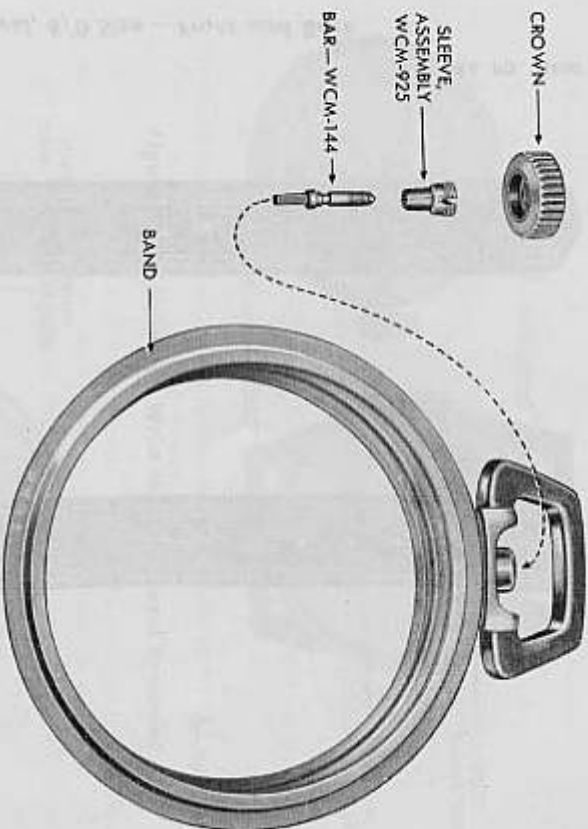

Figure 111 — Waltham Pocket Watch — Crown, Sleeve, and Bar Removed From Case Band Assembly
1. Remove Crown, Stem, and Sleeve (fig. 111). Grasp the square of the winding stem between smooth portion of flat-nosed pliers and
b. **Replace Winding Arbor** (fig. 111). Replace winding pinion and winding and setting clutch on the winding arbor. Insert setting plunger in winding arbor from the square end. Insert winding arbor in its proper place in the pillar plate, aligning the curvature to conform with the mainspring barrel well in the pillar plate. Insert the winding arbor assembly in place on the pillar plate with the plunger end in the winding arbor bearing.
m. Replace Stem Sleeve and Crown (fig. 111). Replace bar in sleeve, placing threaded end of bar through sleeve from the end of the leaves. Replace bar in pendant of case band and set with sleeve wrench. Check bar for proper length. Grasp the square end of stem with smooth portion of flat-nosed pliers and screw on crown.